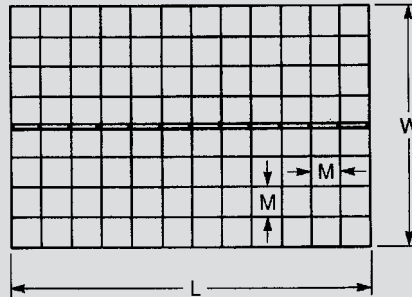

Figure 51. Safety mat with center wire.
- (g) Center wire is either flush (0 inch overhang) or 6 inches overhang (see Figures 51 and 52). Other overhangs are also available.